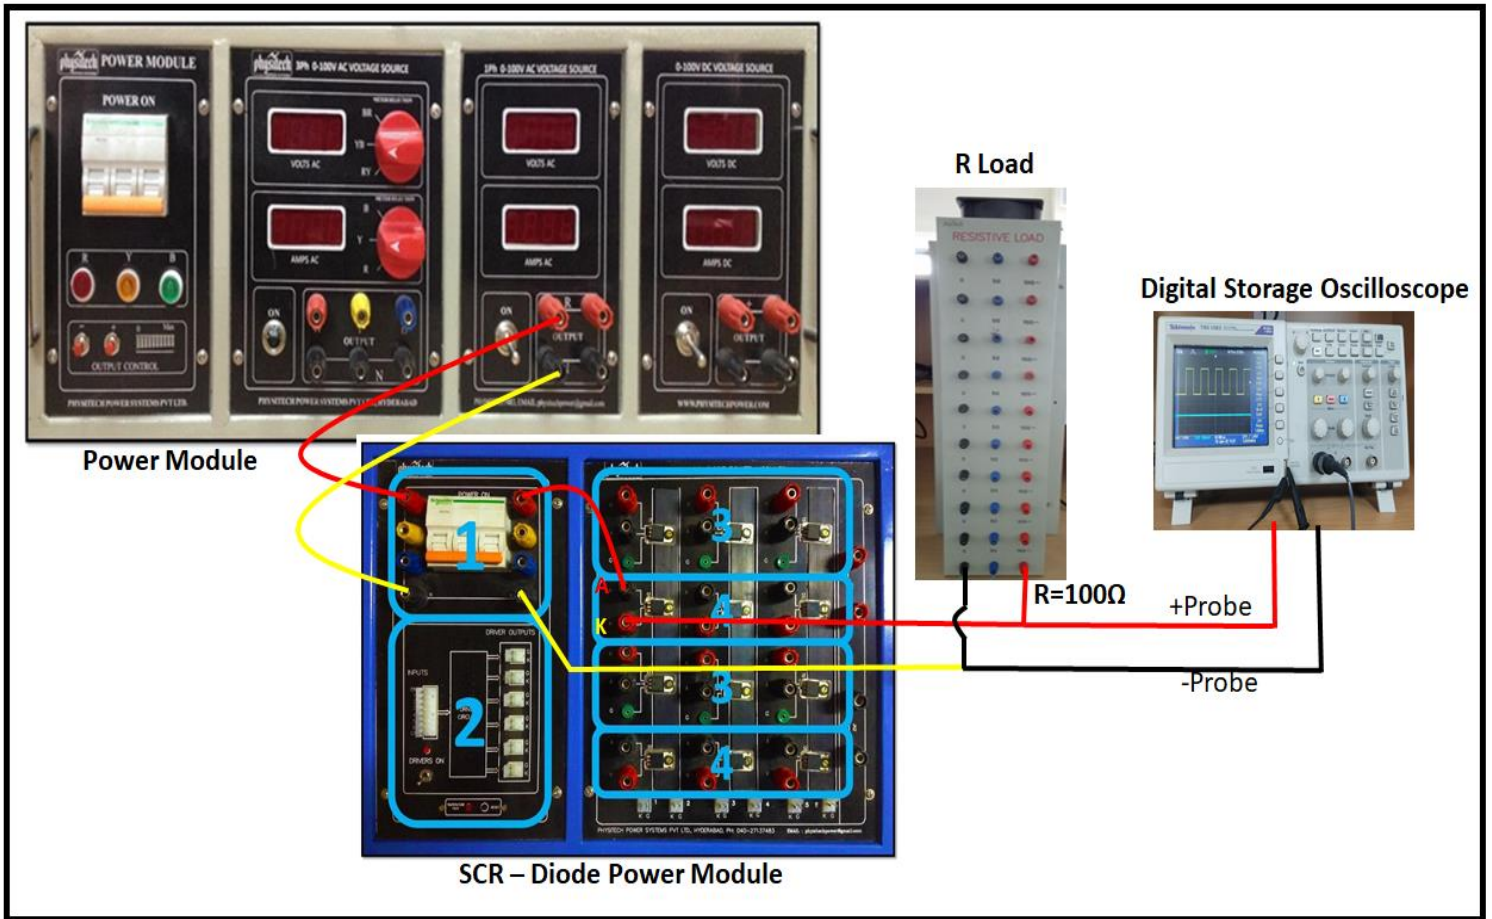

Fig.1
1. Connect the circuit as shown in Fig. 1 ($R=100\Omega$)